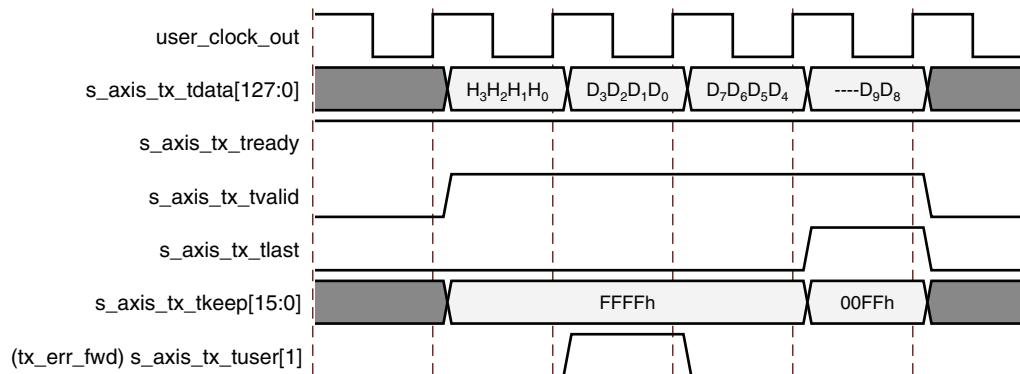

Figure 3-39: Packet Data Poisoning on the Transmit Interface
- Assert s_axis_tx_tuser[1] (tx_err_fwd) for at least one valid data transfer cycle any time during the packet transmission, as shown in Figure 3-39. This causes the core to set EP = 1 in the TLP header when it transmits the packet onto the PCI Express fabric. This mechanism can be used if the user application does not know whether a packet could be poisoned at the start of packet transmission. Use of tx_err_fwd is not supported for packets when s_axis_tx_tuser[2] (tx_str) is asserted (streamed transmit packets). In streaming mode, you can optionally discontinue the packet if it becomes corrupted. See Discontinuing Transmission of Transaction by Source, page 51 for details on discontinuing packets.